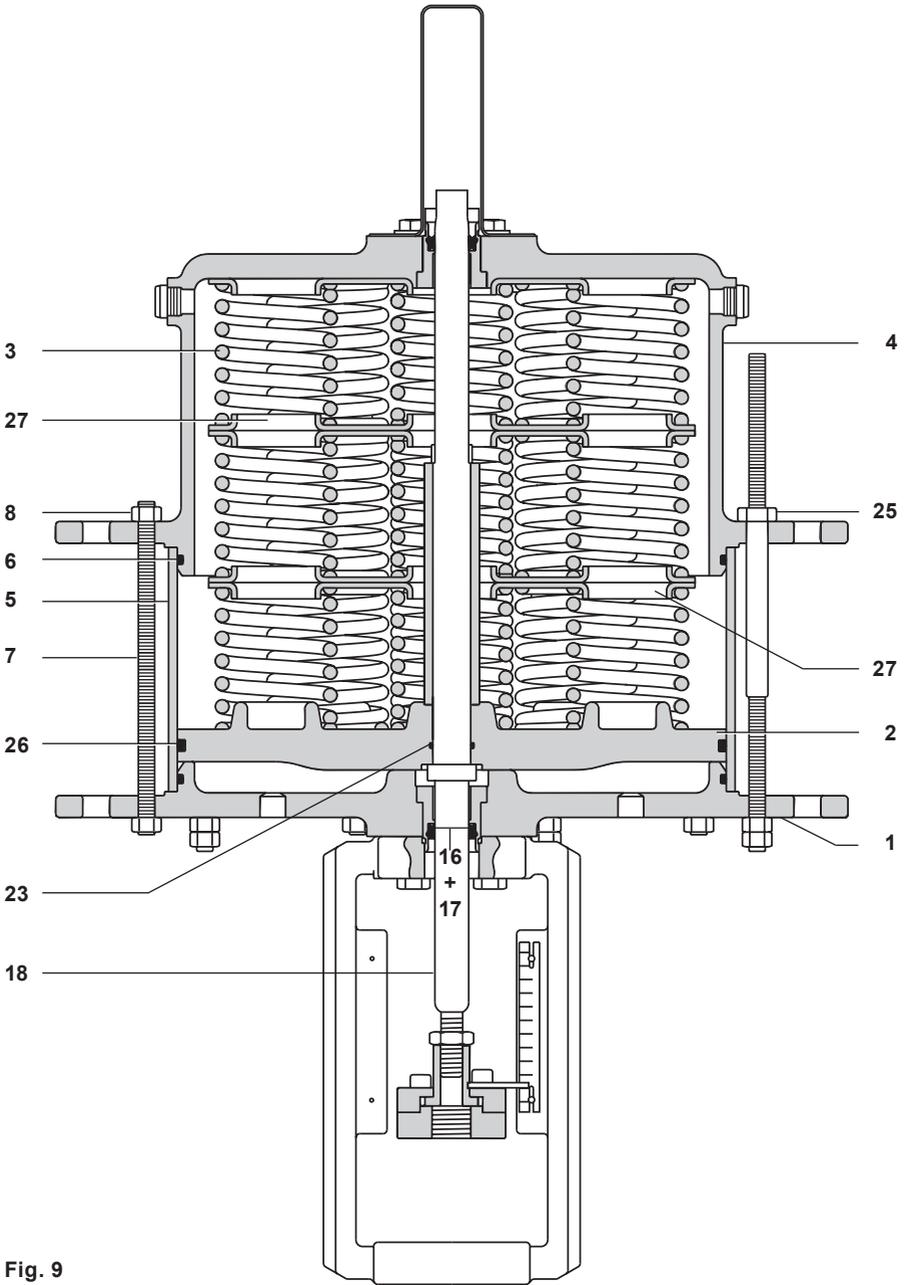

Fig. 9
- Loosen and remove the connector (19), see Figure 9.
- Loosen and remove the short threaded bars (7).
- Evenly loosen and remove the remaining long securing nuts (22), see the 'Note' above.
- Remove the lower cylinder cap (1).
- Remove the cylinder (5).